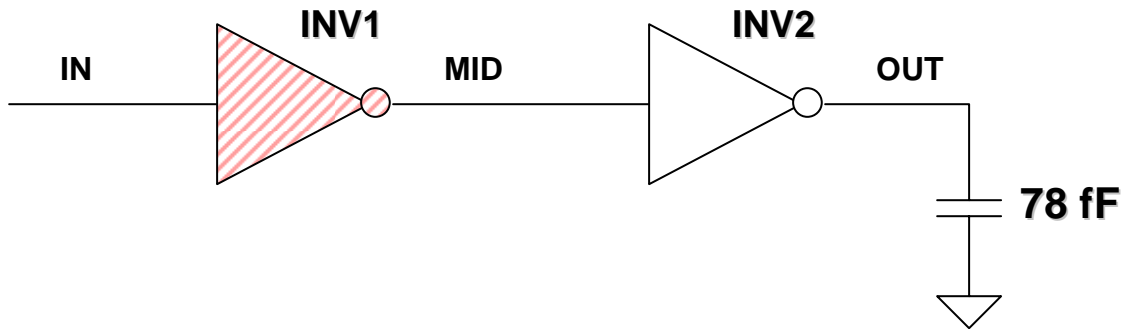

Figure 4
- b) Calculate the width of the PMOS and NMOS devices in INV1 in Figure 4 below such that the delay from a falling “step” input at node IN to the falling output at node OUT is equal to 110ps and the Beta ratio of INV1 matches the Beta ratio in INV2. INV2 has the following device sizes: $W_p = 6\mu\text{m}$ and $W_n = 3\mu\text{m}$. All relevant capacitances at node OUT are included in the lumped 78 fF of capacitance notated on the figure (i.e., do not calculate any capacitances relating to node OUT). Let the only capacitance at node MID be equal to the C_{gc} of INV2. You must consider the input slope effect on delay for INV2, using a value of $K=0.1$ within the model presented in the lecture. (11 points)